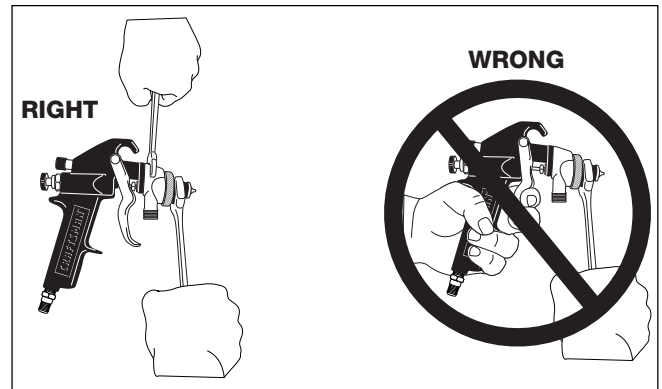

Fig. 1
- c. Using two wrenches remove the fluid nozzle as shown in figure 1.